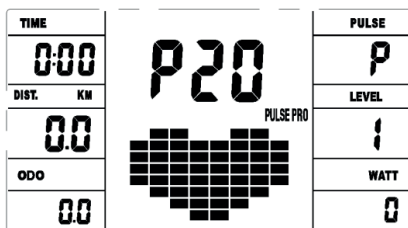

Figure 22
- A. Press the UP/DOWN button to select the target heart rate value - TARGET H.R.C. (Fig. 22). Press ENTER to confirm.